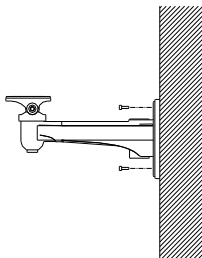

Figure 2-4 Fix the Wall Mount
1. Attach the wall mount to the wall, and use screws to fix it as shown in Figure 2-4.